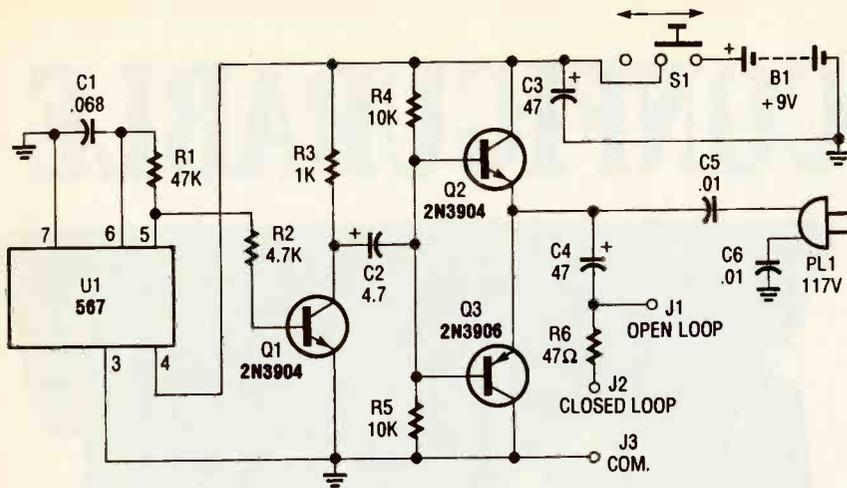

Fig. 1. At the heart of the McTrak is a 567 tone decoder, configured as a simple squarewave oscillator, operating at about 250 Hz.
**How It Works.** A schematic diagram of the *McTrak* is shown in Fig. 1. At the heart of the circuit is a 567 tone decoder. The tone decoder (U1) is configured as a simple astable, square-wave oscillator, operating at about 250 Hz. The 250-Hz output of the squarewave oscillator, at pin 5, is fed to the base of Q1 (a 2N3904 general-purpose NPN transistor), which in this application, functions as a buffer stage. The alternating output of U1